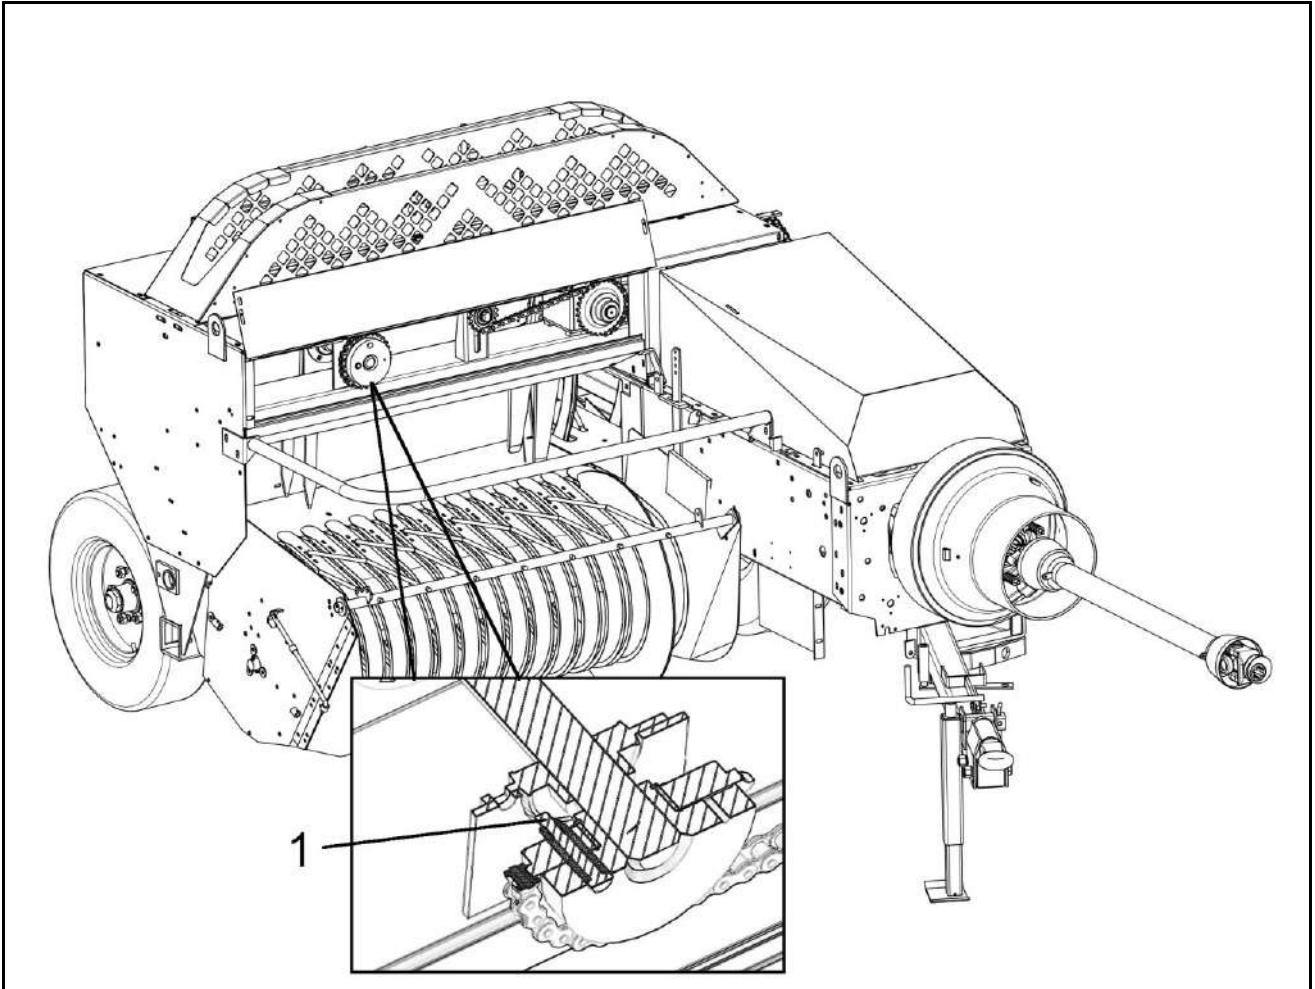

Fig. 6.7
Shear bolt M5x55 mm, class 8.8 with self-locking nut (ref. 1, Fig. 6.7).